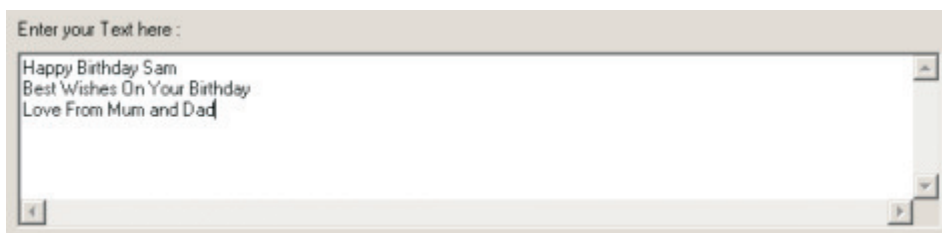

Figure 4
- 3 Enter your text in text entry box, at the end of each line press "Enter", this will make a new line, see Figure 4. Leave all other entries as they are and Click On "OK".